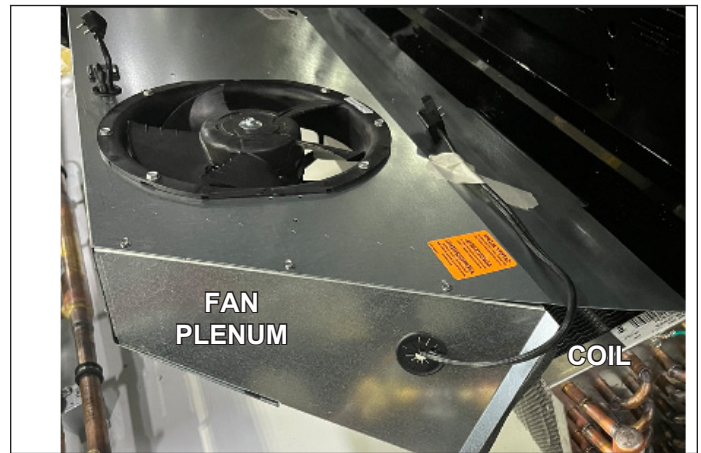

Fig. 8 Single-piece fan plenum and coil cover
- Lift the fan plenum to gain access to the coil for cleaning and maintenance (Fig. 8).